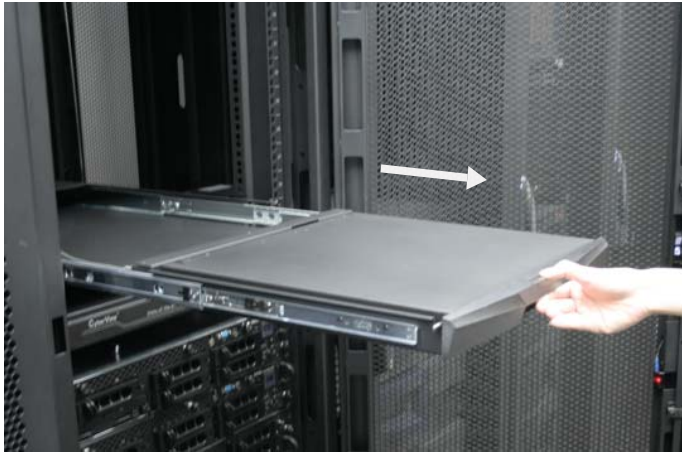

Figure 4. Sliding out the LCD keyboard drawer by pressing the carry handle button first.
- Press the carry handle button. Gently pull the carry handle toward the front of the LCD shown in **Figure 4**.